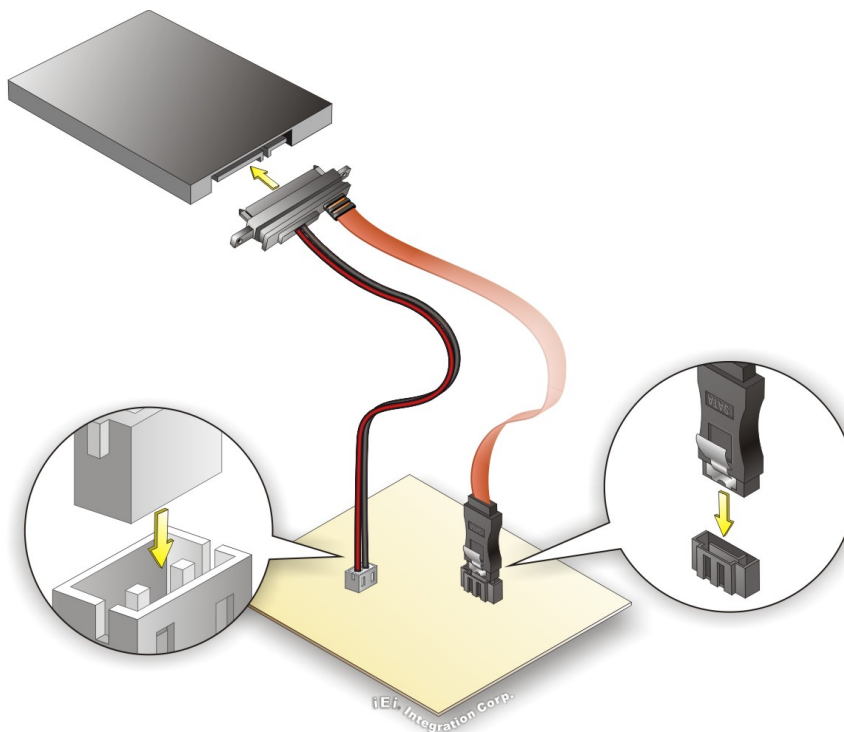

Figure 4-19: SATA Drive Cable Connection
Step 2: Insert the cable connectors. Insert the cable connectors into the on-board SATA drive connector and the SATA power connector. See **Figure 4-19**.
Step 3: Connect the cable to the SATA disk. Connect the connector on the other end of the cable to the connector at the back of the SATA drive. See **Figure 4-19**.